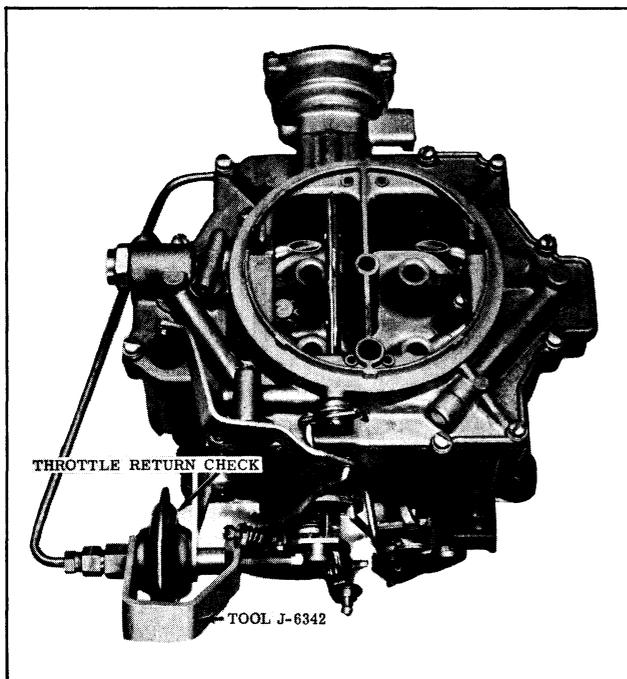

Fig. 3-157 Throttle Return Check Holding Tool
4. Set carburetor on slow idle and install throttle return check holding Tool J-6342 to hold plunger away from throttle lever. (See Fig. 3-157)